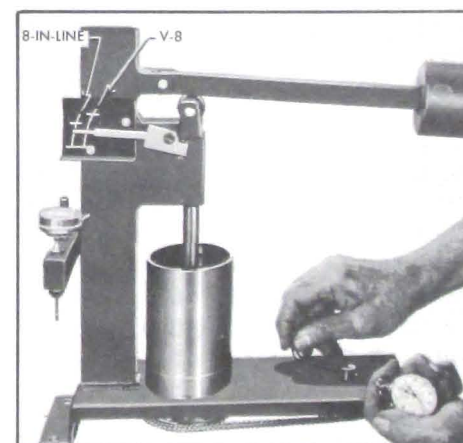

Figure 2-45—Checking Leakdown Rate
4. Lower the ram to rest in the lifter push rod seat, then lower the weight arm to rest on the roller of ram as shown in Figure 2-45.
6. Raise weight arm to allow the lifter plunger to come up to its retainer, then lower the arm to rest on the ram roller. As the pointer starts moving upward start rotating the fluid cup by turning the handle one revolution every two seconds. See Figure 2-45.
7. Use a stop watch to check the time required for pointer to move from the lower to the upper mark on scale where marked "BUICK V-8." The cup must be rotated during this test. See Figure 2-45.